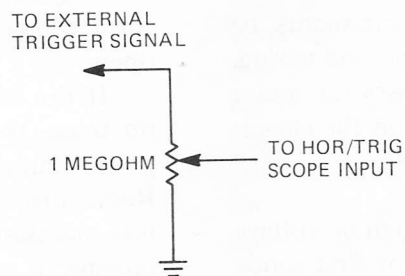

Figure 15. Using external trigger signals larger than a few volts peak-to-peak.
When using an external trigger input, the external trigger signal should be only a few volts peak-to-peak. If you want to use larger trigger signals, you should connect a 1 megohm (M) trimmer like that shown in Fig.15 to reduce the amplitude of the trigger pulse to an acceptable level.